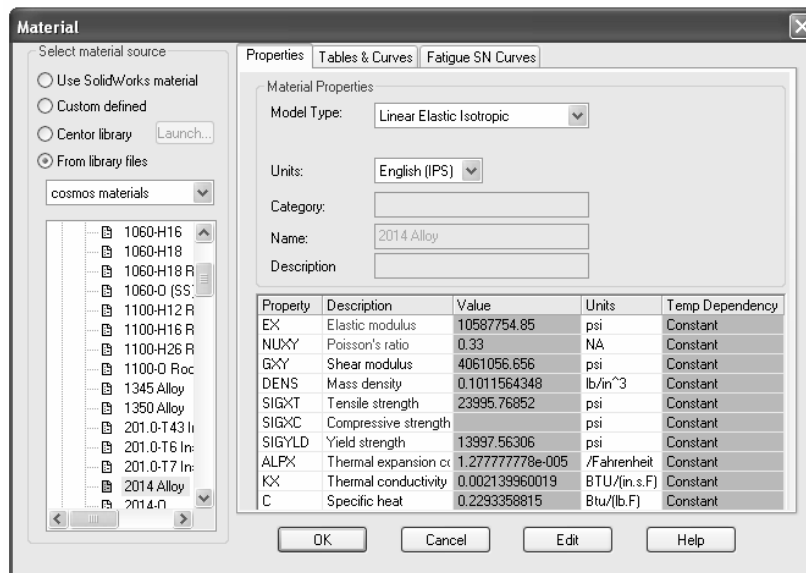

Figure 5 – Material properties are selected and/or defined in the **Material** window.
1. In the COSMOSWorks manager tree, right-click the **Solids** folder and from the pull-down menu select **Apply Material to All...** The **Material** window opens as shown in Fig. 5.